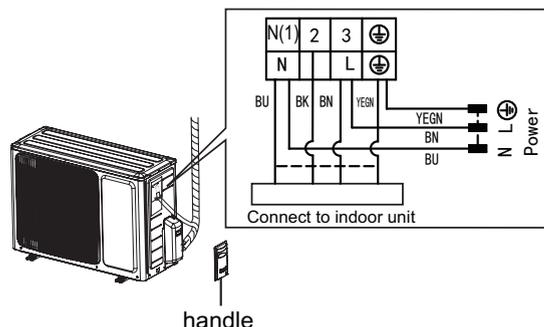

Fig.23
- (1) Remove the wire clip; connect the power connection wire and power cord to the wiring terminal according to the color; fix the power connection wire and power cord with screws.(As show in Fig.23)